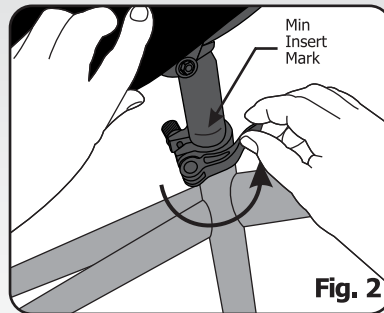

Fig. 2
2. Tighten / Close the Quick Release (as per instructions Fig. 2 Page 20)
Attention! Always insert seat post into bicycle frame above the **minimum insert mark**, see **Fig. 2**. Incorrect seat post insertion outside of minimum mark will cause bicycle damage or injury.
- 2.** Hold the saddle aligned in the forward position at the desired seat height. Close quick release counter clockwise see (**Fig. 2**).